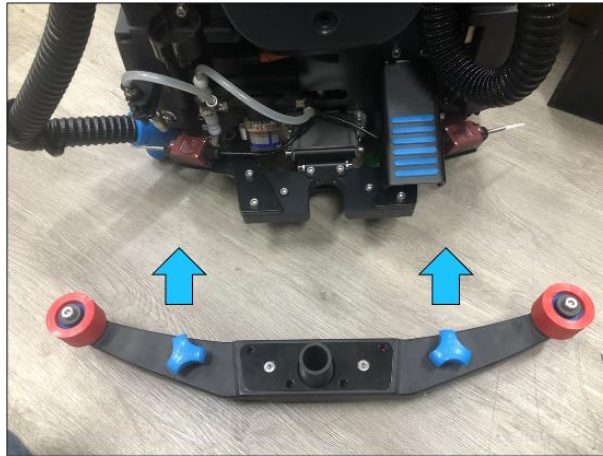

FIGURE 2-11
1. Align the squeegee housing to the squeegee mount. (Fig. 2-11)